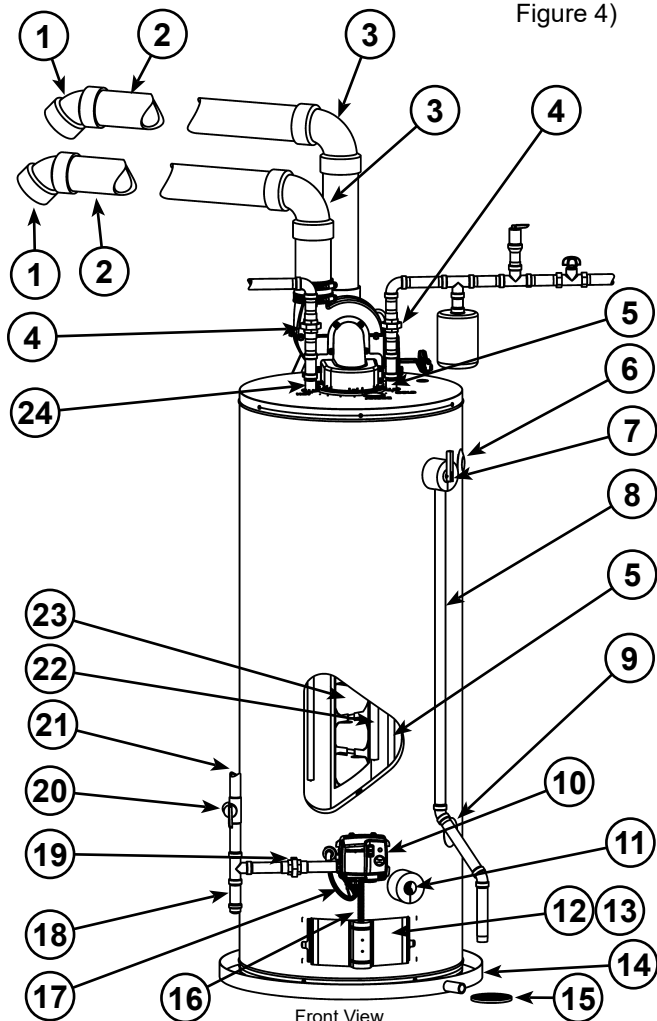

Figure 1.
Models equipped with Combo Heating capabilities are shipped with the two side plumbing taps **OPEN** (item 6 and item 9 in Figure 1). See also . If the heater is to be operated without using the side taps for combo heating, these openings **must be plugged** with the two pipe plugs supplied with the heaters.
This feature is a part of the gas control valve/thermostat (see Figure 1, item 9) and limits the maximum water temperature. In the event of the water overheating, this safety feature shuts off the fuel supply to the burner.